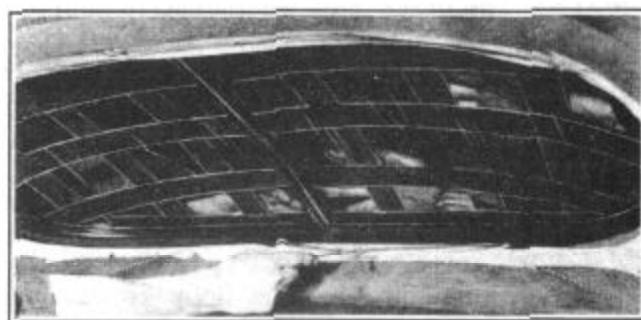

FIGURE 63
6. After rubber cement becomes tacky, place pieces of 2" masking tape vertically and horizontally tying the reveal mouldings and glass as a unit. Place strips 8" apart, Figure 63. To further insure a good tight assembly, place a strip of masking tape completely encircling the window and reveal moulding.
9. Place masking tape around the window recess at inside of body to protect headlining, Figure 63.